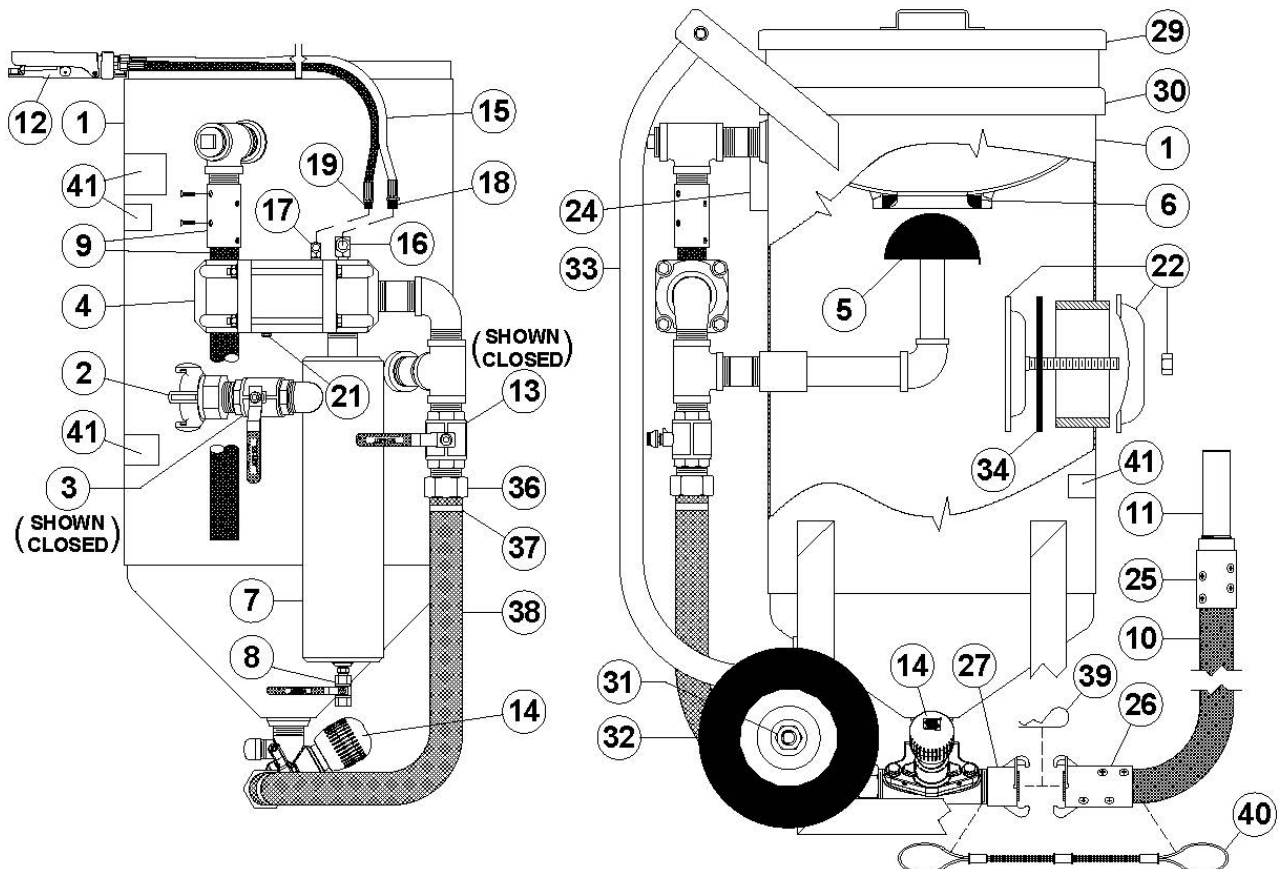

Figure 6.2 – MV2 Valve Abrasive Blaster with pneumatic blast controls
6.1 Abrasive Blaster Setup Procedure (see Figure 6.2)
- 6.2.3. Close the air inlet ball valve (#3) to disable the blaster and the deadman blast control. The ball valve is closed when the handle is fully turned to the position shown in Figure 6.2 (handle perpendicular to body). The handle tab will bottom against the ball valve body in the closed position.